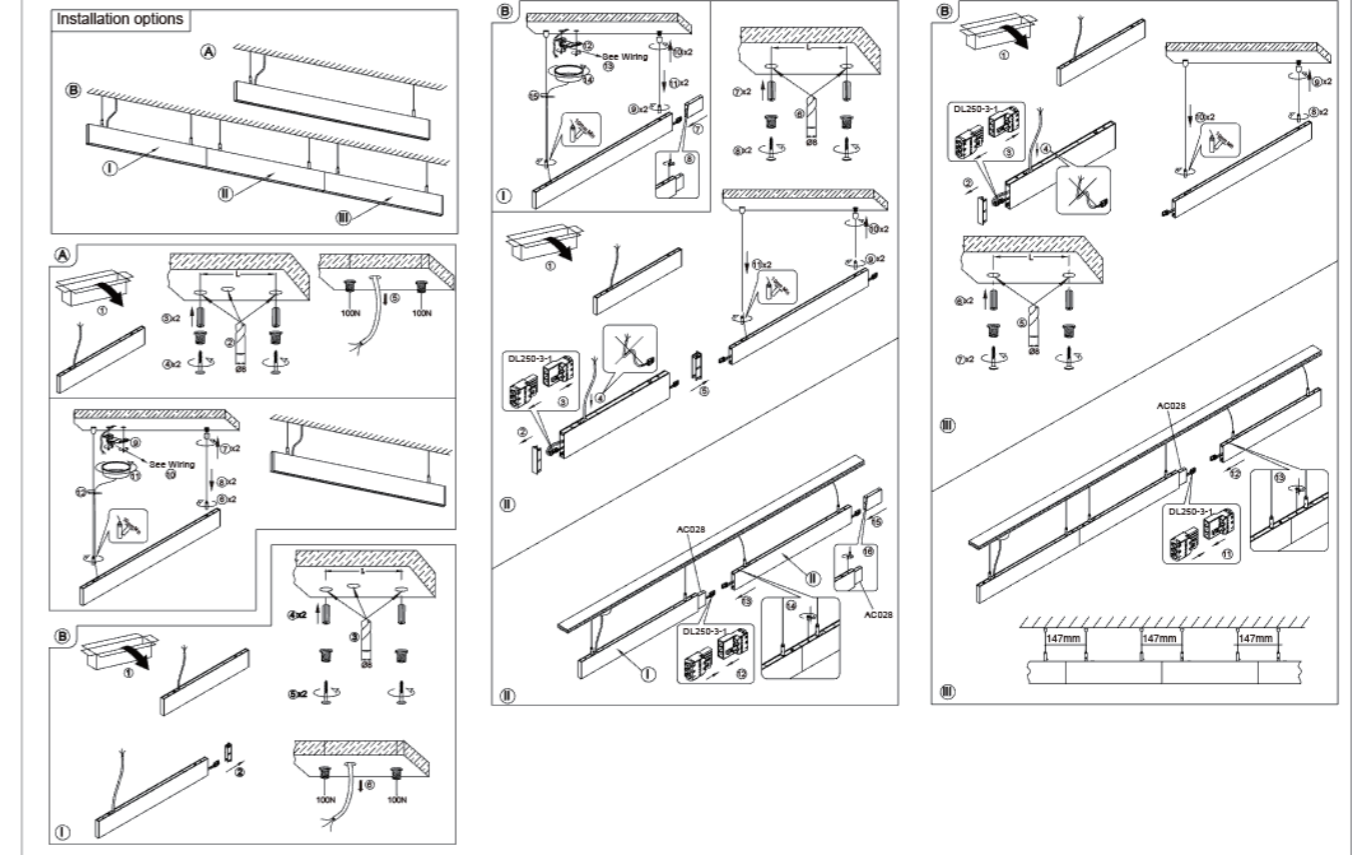

Fig 2. Easy fasten buckle, corner connection.
- The "79191" accessory is available for corners. **See Fig 2.**